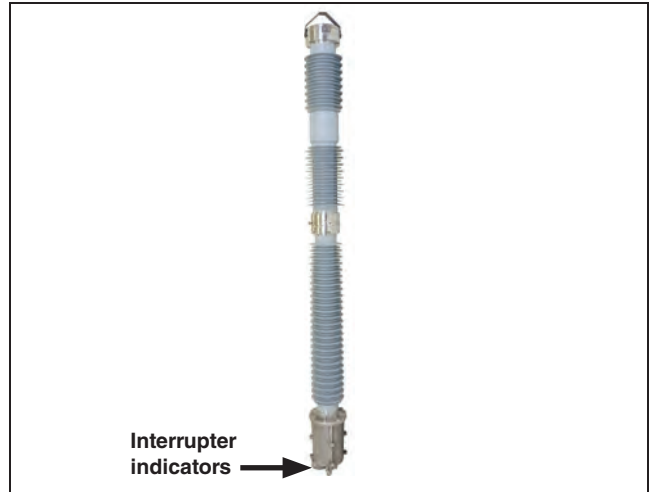
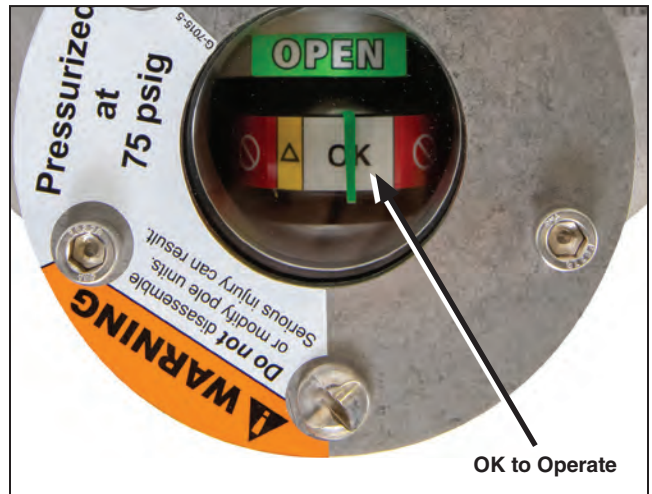

Figure 10. With the interrupter lifted off the ground, check the gas-pressure gauge.
Figure 11. Make sure the gas-pressure gauge on each interrupter is in the OK to Operate zone.
**STEP 2.** With the interrupter lifted off the ground, make sure the gas-pressure gauge on the underside of the interrupter is in the OK to Operate zone. See Figure 10 and Figure 11.